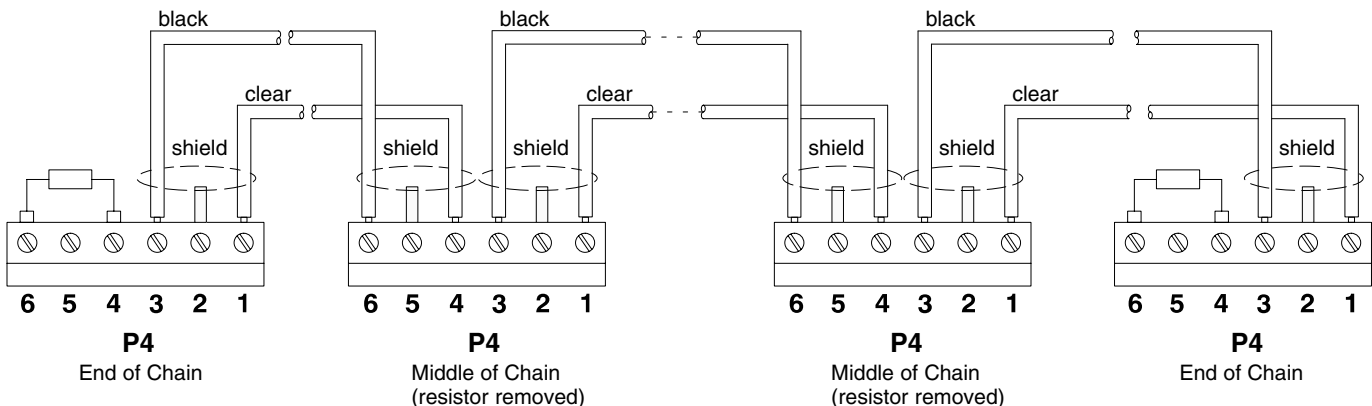
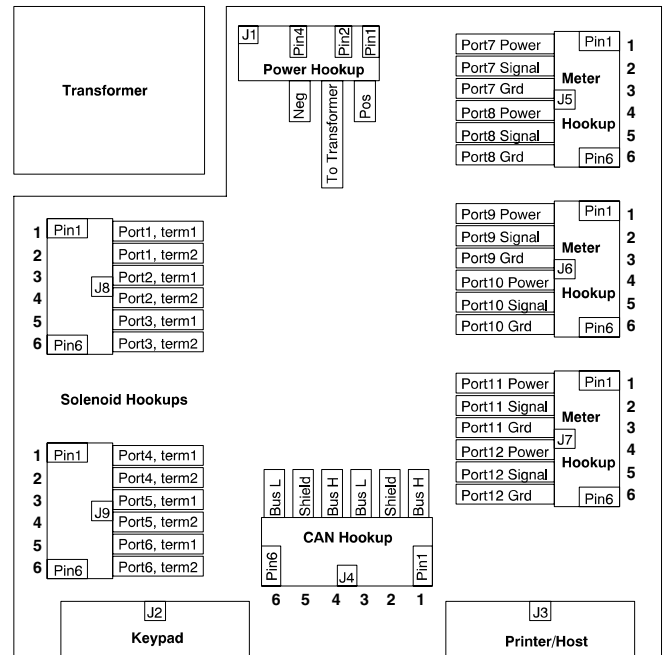

Fig. 10
Fig. 9
**NOTE:** See Fig. 9, page 16, for connector locations.
The cables are connected at each control module by stripping the wires and connecting the wires as shown in Fig. 10. Refer to Fig. 9 for the placement of the control module connectors.
- Connect the control module(s) in the middle of the network chain as shown in Fig. 10, with the terminating resistor removed.
- Connect the control modules at the end of the network chain as shown in Fig. 10, with the terminating resistor in place.